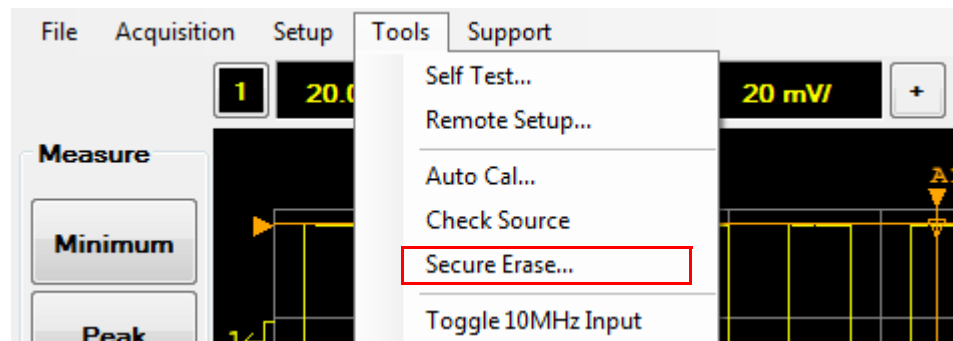

Figure 2-101 Secure Erase... selection in the Tools menu
- 1 Select **Tools > Secure Erase...** on the toolbar as shown in Figure 2-101.